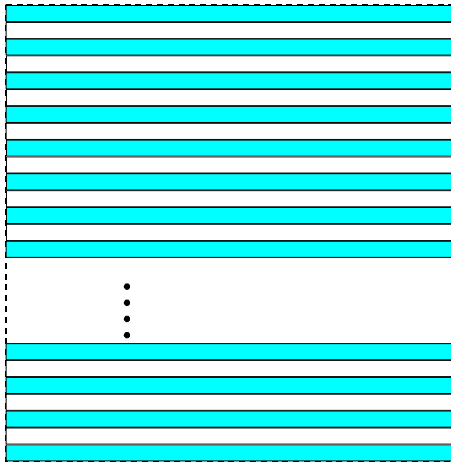

Fig. 122: Decimation of 2 (Mono Cameras)
- 2 for mono cameras: only every second row of the acquired frame will be transmitted out of the camera (Figure 122).